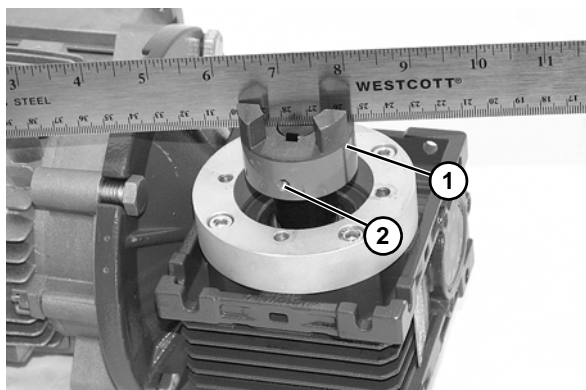

Figure 21
12. Install 3 jaw coupling (Figure 21, item 1) so that the end of the shaft is even with the coupling. Tighten set screws (Figure 21, item 2) to 45 in-lbs (5 N-m).